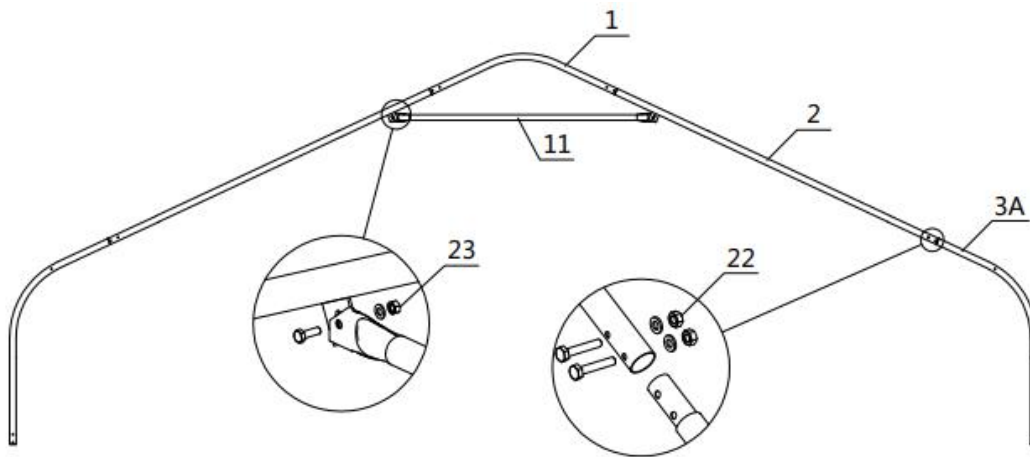

Figure 2
- The building includes 10 trusses : (2) front and rear truss, and (8) middle trusses.
- Parts used to install the front and rear truss in this step (refer to figure 2) :